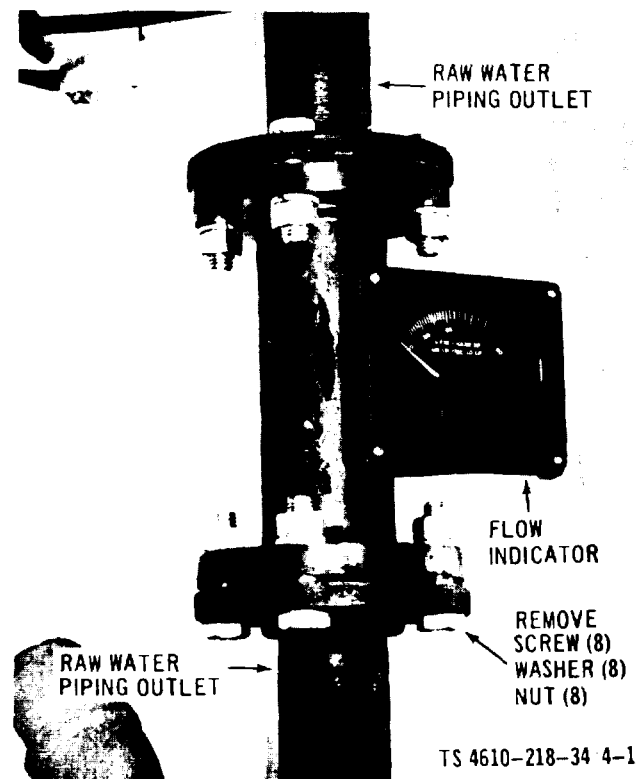

Figure 4-1. Raw Water Flow Indicator and Piping, Removal and Installation
b. Removal. Remove the raw water flow indicator as illustrated in figure 4-1.
f. Installation. Install the raw water flow indicator as directed in figure 4-1.